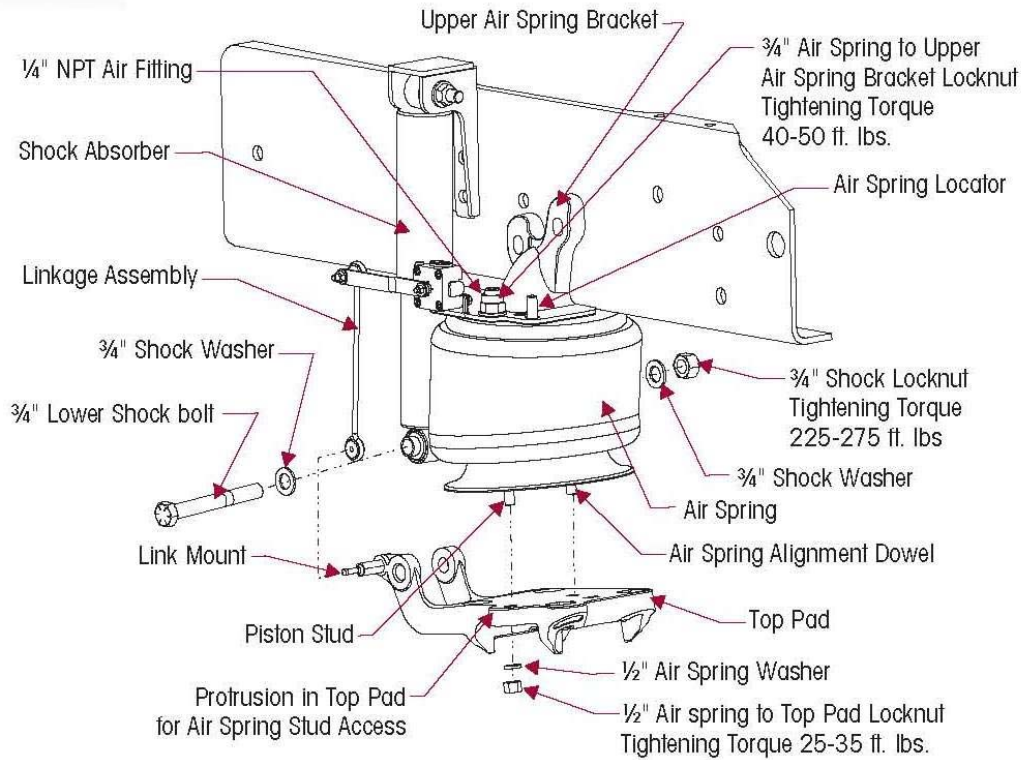

Figure 3
16. Install the air spring into the top pad with new nuts. Torque nuts to 41 Nm (30 lbf-ft). Make sure the air spring piston seats into the top pad correctly (see Figure 3).